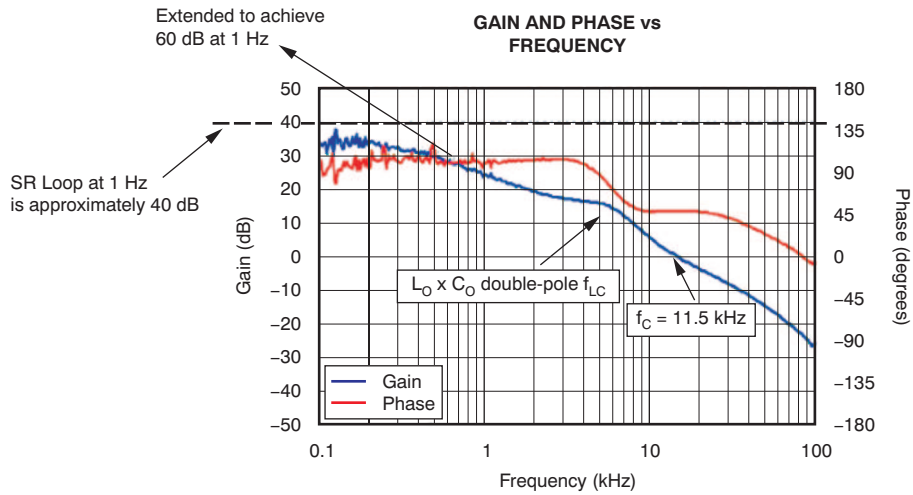

Figure 2. Case 1: HB Loop Compensation Bode Plots of HB Loop-Gain
- The HB loop-gain Bode plots are shown in Figure 2. The results show that $f_c = 11.5$ kHz with a phase margin of 59 degrees, which follows the guideline of Equation 3.